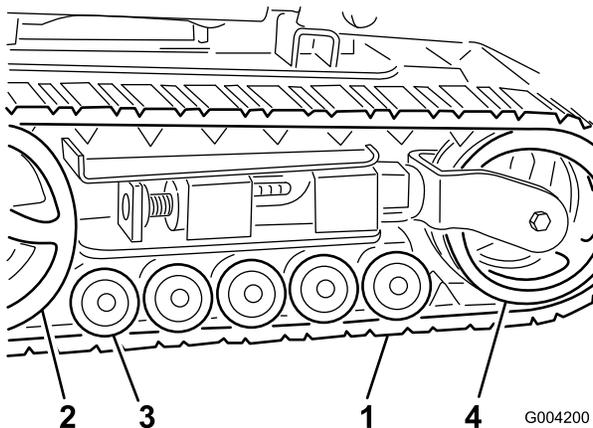

Figure 46
**Important:** Ensure that you fully clean the road wheels, the tension wheel, and the drive sprocket (Figure 46). The road wheels should rotate freely when clean.